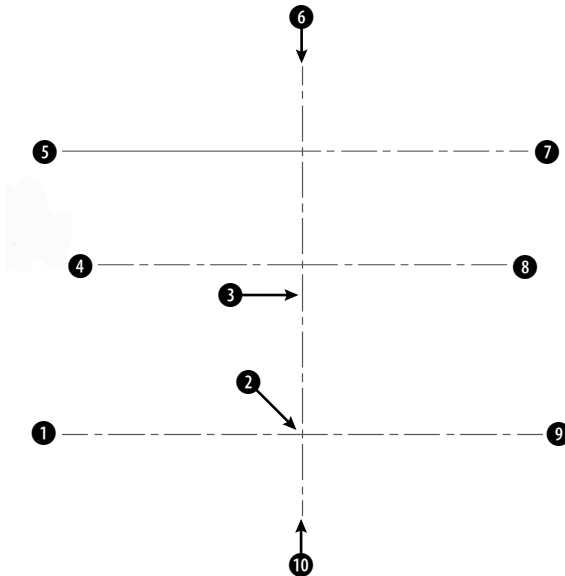

Figure 21-17: These centerlines are the basis for drawing a chair.
3. Choose Circle from the Draw toolbar. Use the From object snap to specify the center at an offset from **1** (in Figure 21-17) of `@2,0`. Set the radius to 0.5.
9. Choose Polyline from the Draw toolbar. At the Specify start point: prompt, choose the From object snap. Use the Center object snap of the top of the circle near ❶ in Figure 21-17 for the base point and an offset of @-2,0. (You may have to press the Tab key until you get the Center object snap.) Continue to pick points ❷ through ❿. Notice that the Endpoint object snap symbol appears at the height of the first point. Then right-click and choose Close to close the polyline.